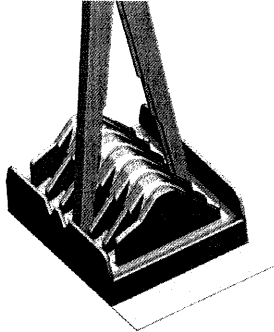

fig.2
3. Carefully insert the applier jaws vertically into the cartridge slot, making sure the jaws are perpendicular to the base of cartridge (fig.2) ;